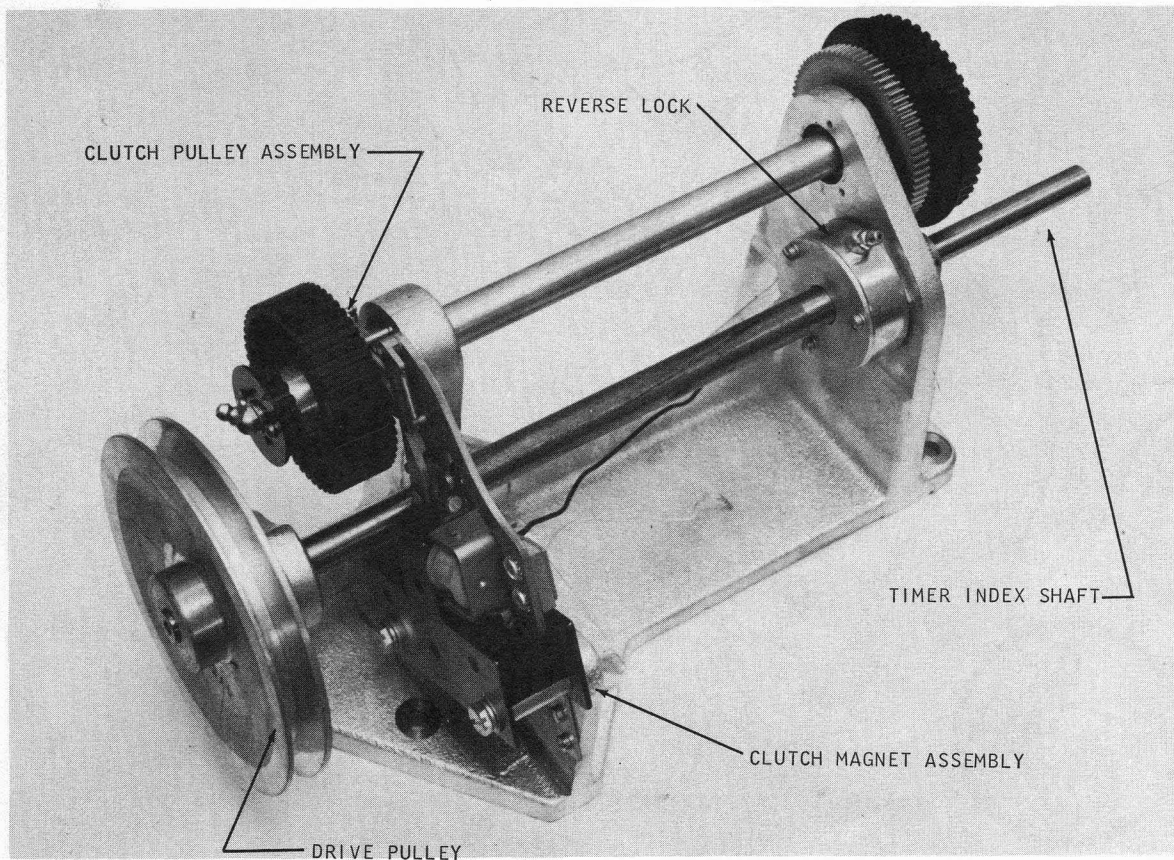

Figure 3-5. Clutch Drive Assembly
7. Remove clutch pulley assembly. It may be necessary to loosen V-belt input pulley and move it towards the end of its shaft. See Figure 3-5.